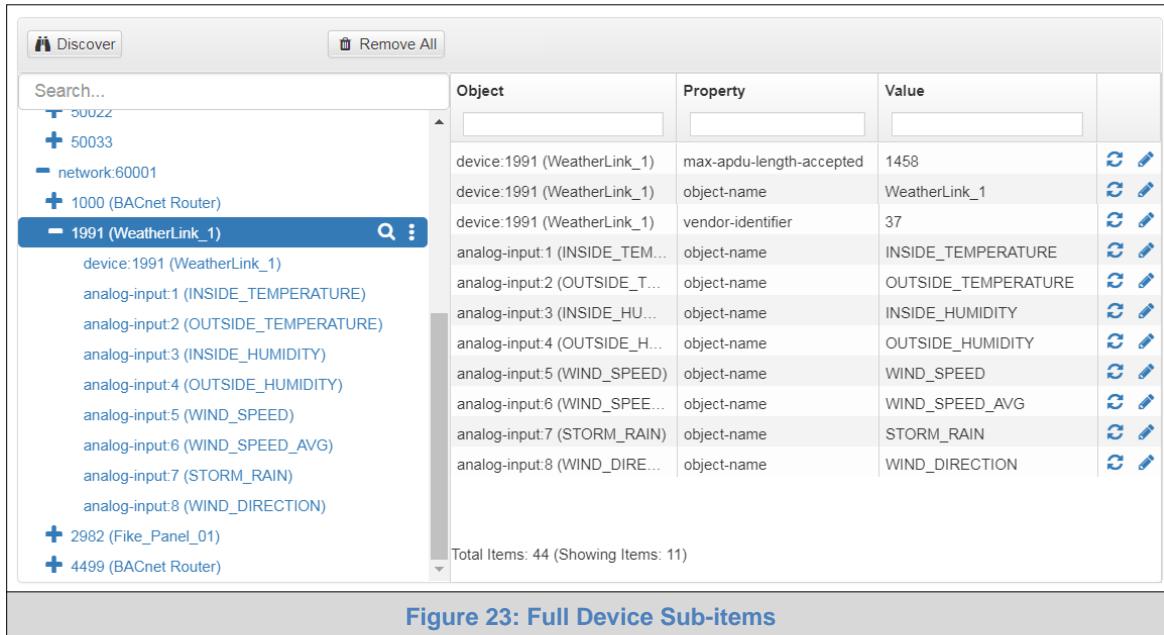

Figure 23: Full Device Sub-items
- To view the full details of a device, go back to highlighting the device directly (in Figure 23 “1991 WeatherLink_1”) and click the Explore button (🔍) that appears to the right of the highlighted device as a magnifying glass icon or double-click the highlighted device.